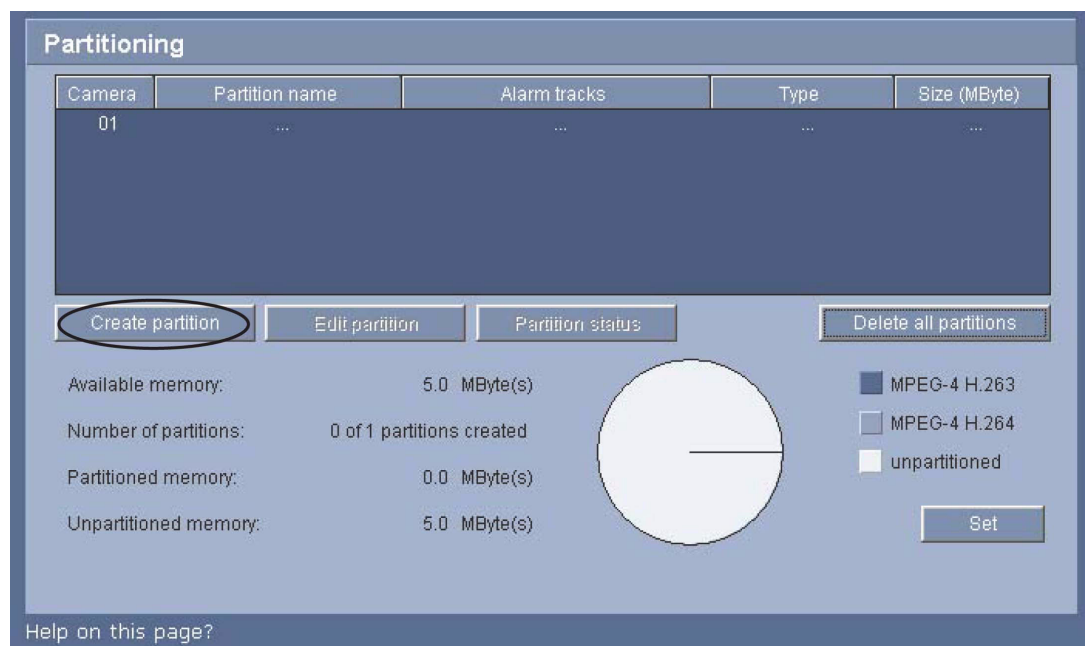

Figure 8.18 Partitioning
2. Click the Recording Settings link, then click Partitioning. The IP AutoDome displays the Partitioning screen (see *Figure 8.18* above).
2. Click the Recording Settings link, then, click Partitioning. The IP AutoDome displays the Partitioning screen (see *Figure 8.18*).